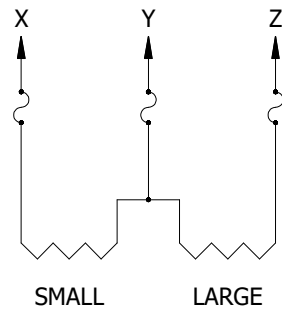

FIGURE 1
A. REFERRING TO FIGURE 1, FIND SMALL TRANSFORMER SIZE IN COLUMN 1 OF THREE PHASE TRANSFORMER FUSE SIZING TABLES. FUSE SIZE OF PHASE "X" IS LOCATED UNDER COLUMN 2. FIND LARGE TRANSFORMER SIZE IN COLUMN 3. FUSE SIZE FOR PHASES "Y" AND "Z" IS LOCATED IN COLUMN 4.